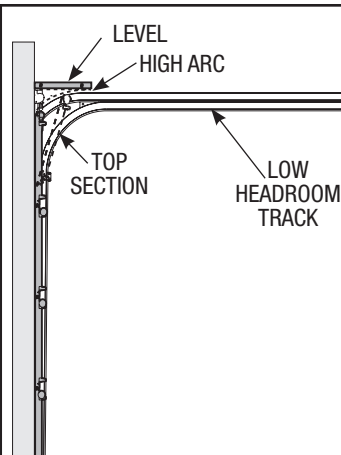
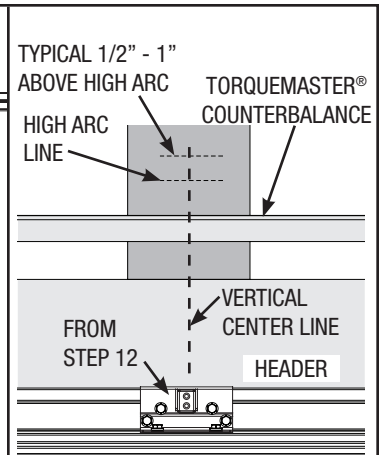
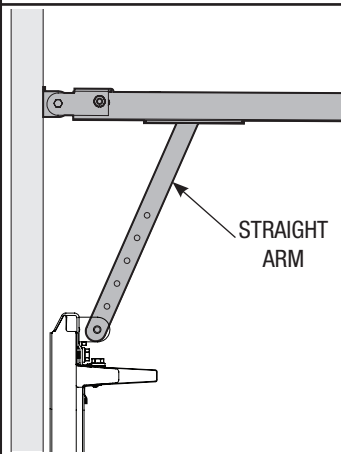
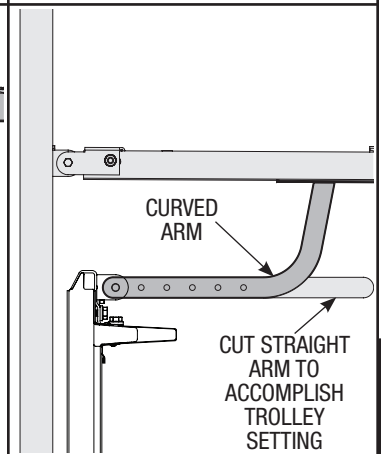

FIG. 3.1
FIG. 3.2
FIG. 3.3
FIG. 3.4
Determine center line of door. Mark vertical line at this point, on the header wall. Raise the door slightly until the top section reaches the highest point of travel (high arc). Using a level, mark this high arc point of travel on the header wall, intersecting the vertical center line, as shown in FIG. 3.1 through FIG. 3.2. Hold the wall bracket's bottom edge to the appropriate 1/2" - 1" (room permitting) above of the high arc line and centered on the vertical line, as shown in FIG. 3.2. Spot the wall brackets mounting holes on the header wall and then refer to your garage door operator manual for pre-drilling and securing the wall bracket to header. Using the OPERATOR HOOK-UP CHARTS, refer to referenced illustrations in FIG. 3.3 through FIG. 3.4 for correct arm hook-up from trolley to operator bracket.
**NOTE:** Refer to your operator manual for specific details on how to assembly the curved and straight arm, as shown in FIG. 3.3 through FIG. 3.4.
**NOTE:** Depending on your setup, you may or may not have to cut straight arm to accomplish trolley settings, as shown in FIG. 3.3 through FIG. 3.4.
| QUANTUM/CLASSIC    | CURVED / STRAIGHT      | FIG. 3.4                 | STRAIGHT        | FIG. 3.3                 |
| LINEAR             | STRAIGHT               | FIG. 3.3                 | N/A             | N/A                      |
| LIFTMASTER (SEARS) | CURVED / STRAIGHT      | FIG. 3.4                 | STRAIGHT        | FIG. 3.3                 |
| GENIE              | CURVED / STRAIGHT      | FIG. 3.4                 | STRAIGHT        | FIG. 3.3                 |